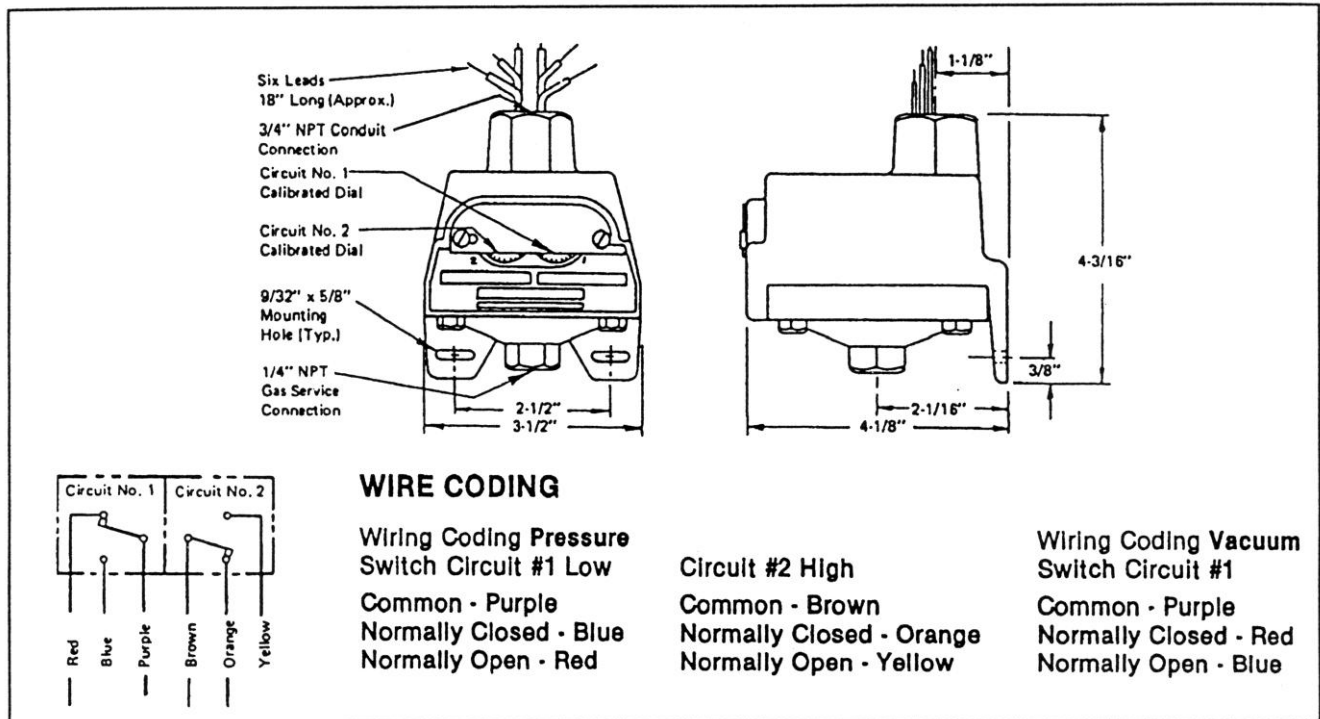

Figure 29 – Pressure/Vacuum Switch
1. **Wiring for Abnormal** – Wire purple and brown wires together. The blue wire gets wired to the alarms’ 10-switch signal PCB labeled “SI” (signal input). The orange wire gets wired to the alarms’ 10-switch signal PCB labeled “GO”(ground out). See Figure 29.